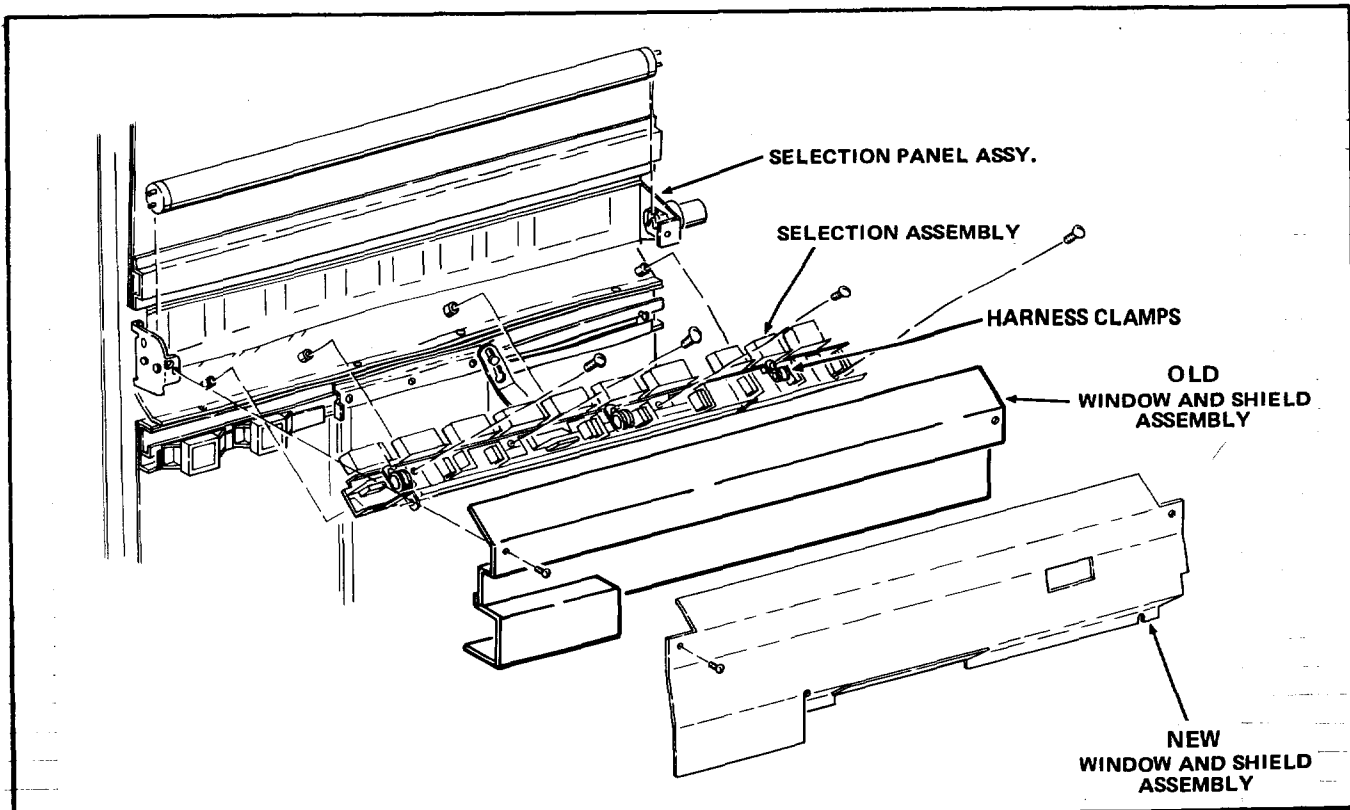

FIGURE 1
4. Loosen the two screws at the bottom of the Window and Shield Assembly. Do not remove the screws. See Figure 1.
5. Remove the two screws at the top of the Window and Shield Assembly. Save the screws. See Figure 1.
7. Remove the 25 watt Fluorescent Lamp. See Figure 1.
8. Remove the Four screws attaching the Selection Assembly to the Door. Save the Screws. See Figure 1.
9. Carefully pull the Push Buttons on the Selection Assembly out of the holes in the Selection Panel Assembly and allow the Selection Assembly to hang down below the Selection Panel Assembly. Make sure that no wires are pulled loose. See Figure 1.
10. Remove three attaching screws and the three Harness Clamps from the old Selection Assembly. See Figure 1.